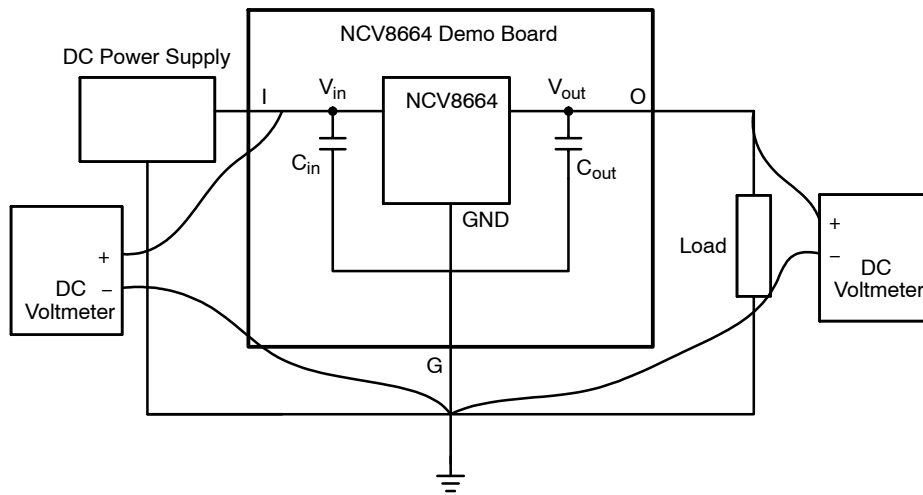

Figure 5. Dropout Voltage Test Setup
1. Connect circuit as shown in Figure 5.